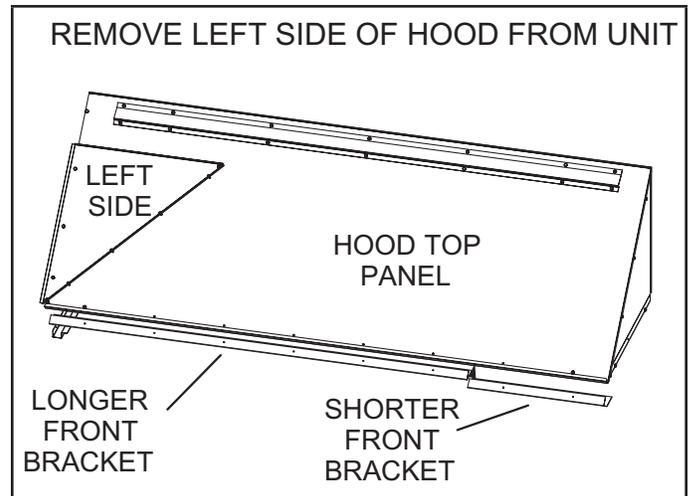
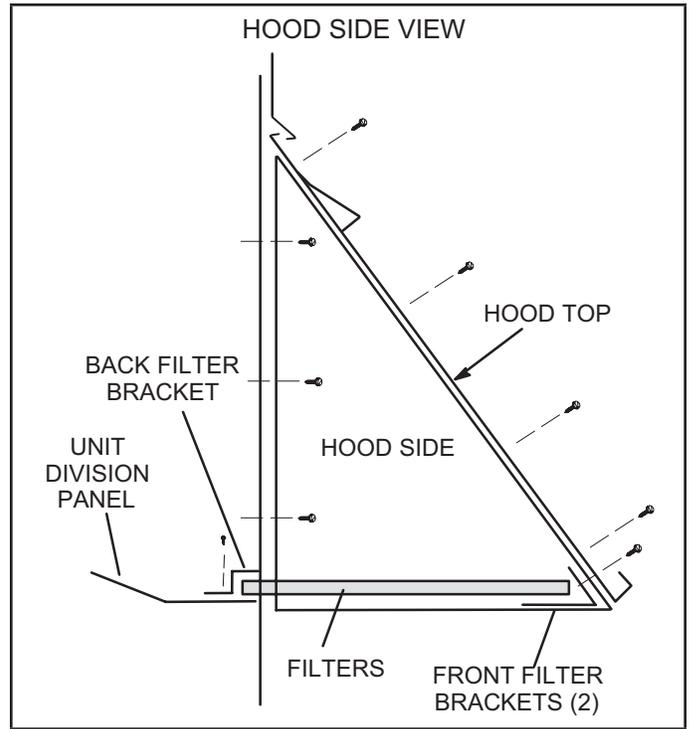

FIGURE 7
FIGURE 9
- 1 - Remove left side from hood top panel. See FIGURE 7.
- 6 - Install back filter bracket on unit division panel as shown in FIGURE 9.
- 8 - Install longer front filter bracket on hood top as shown in FIGURE 7 and FIGURE 9. Insert four filters.